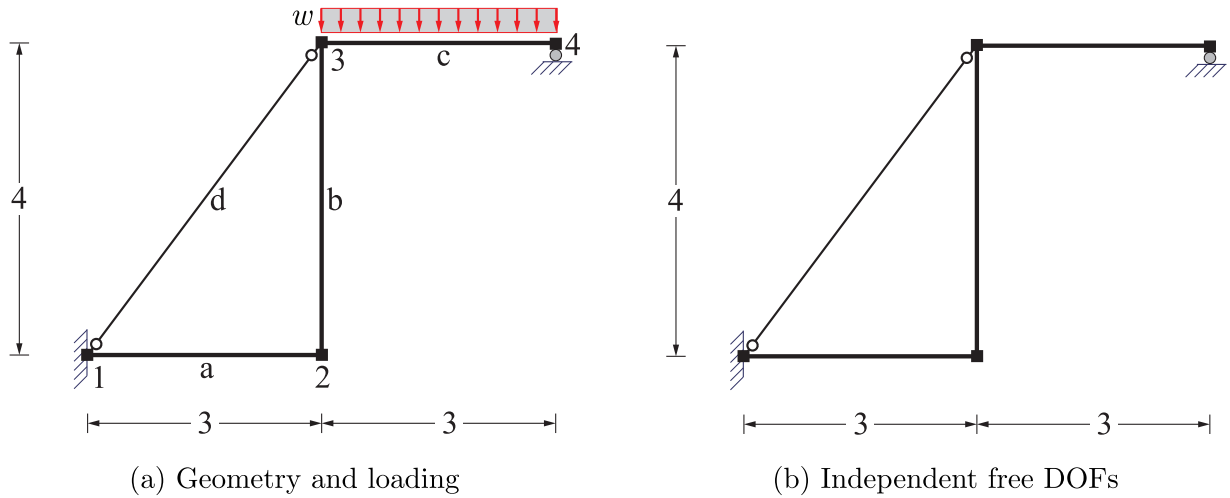

Figure 3: Braced frame
The braced frame in Fig. 3(a) consists of the *inextensible* frame elements a, b and c and the truss (brace) element d. In the general case, the flexural stiffness  $EI$  of each frame element may be different, so that  $EI_a$ ,  $EI_b$  and  $EI_c$  are not the same. The truss element has axial stiffness  $EA$ .
1. Identify the independent free degrees of freedom (DOFs) in Fig. 3(b).